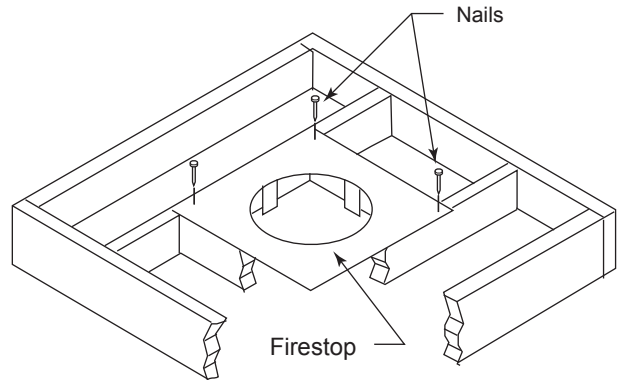
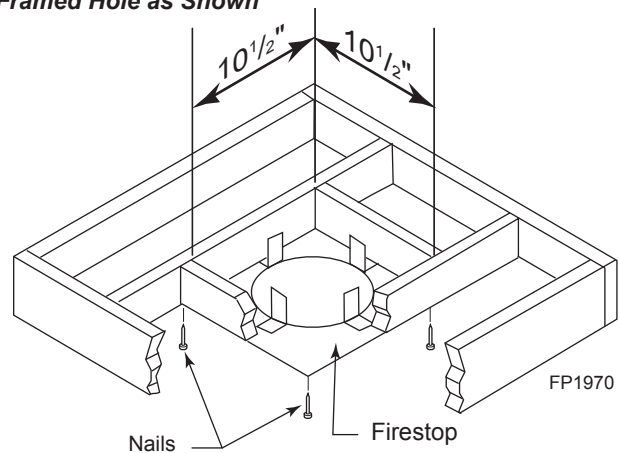

Figure 20 -
Figure 21 -
within the parameters shown in Figures 20 and 21.
1. Cut a 10½" (241 mm) square hole in the ceiling using the locating hole as a center point. The opening should be framed to 10½"x10½" (241 mm x 241 mm) inside dimensions as shown in Figure 21 using framing lumber the same size as the ceiling joist. If the area above the ceiling is an insulated ceiling or a room, nail firestop from the top side. This prevents loose insulation from falling into the required clearance space. Figure 20. Otherwise, install firestop below the framed hole. Figure 21